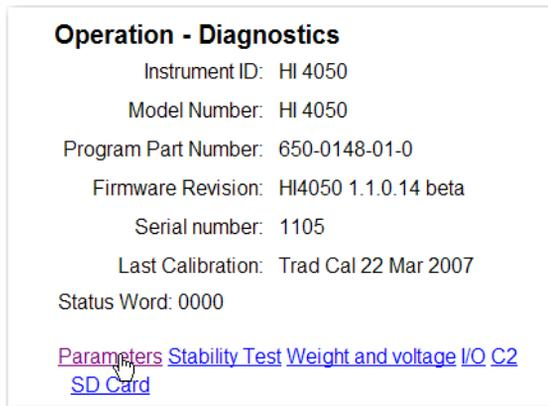

FIG. 297 DIAGNOSTICS/SELECTING PARAMETERS
Step 2. Click on Diagnostics. The Diagnostics page appears. (See Fig. 297)